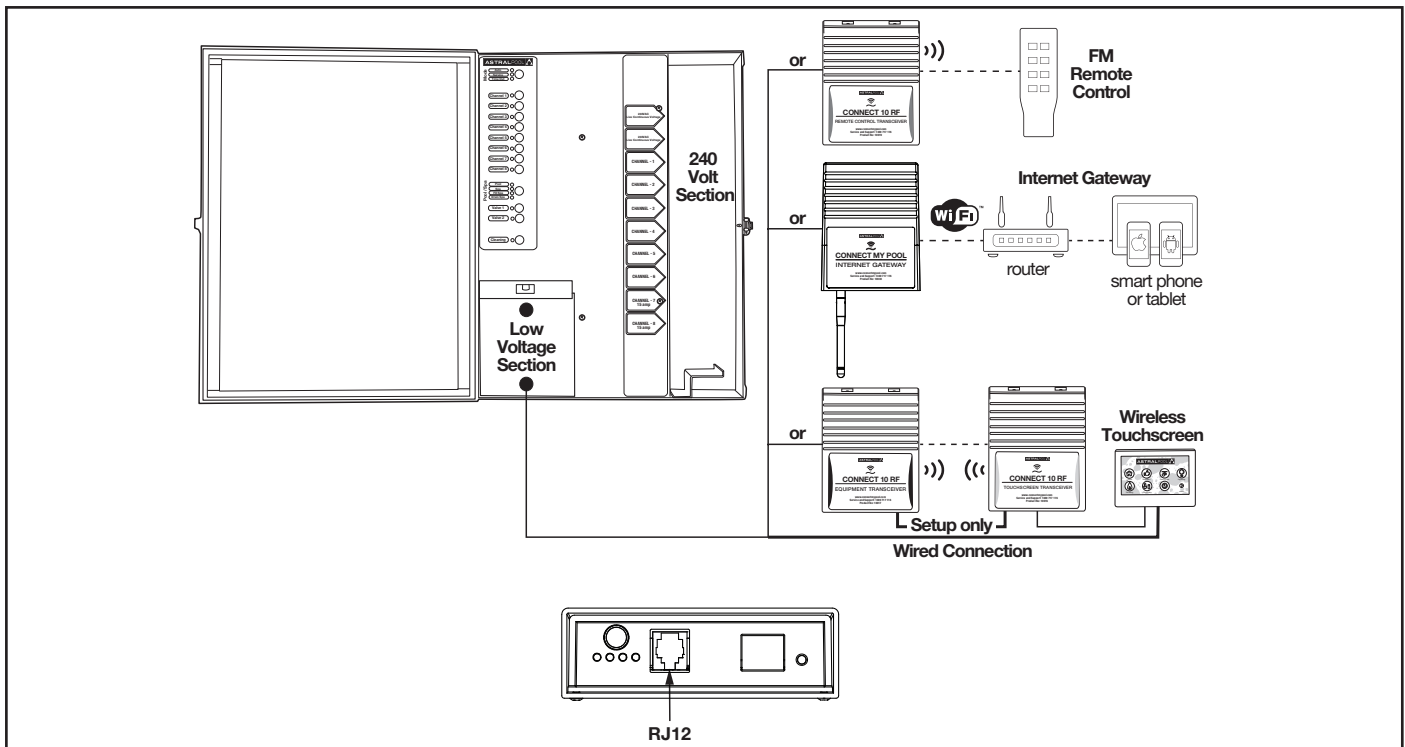

Figure 8. Wired and Wireless Communication Connection Methods
There are four (4) optional transceivers that provide extended communication capabilities via WiFi. Section 4 provides further details. See Figure 8.
1. For a wireless link system installation, complete the wireless Touchscreen configuration shown in Figure 8 with all components at the same point.
2. Connect the Touchscreen transceiver, Equipment transceiver, Touchscreen controller, and the touchscreen power adaptor together as shown in Figure 8.